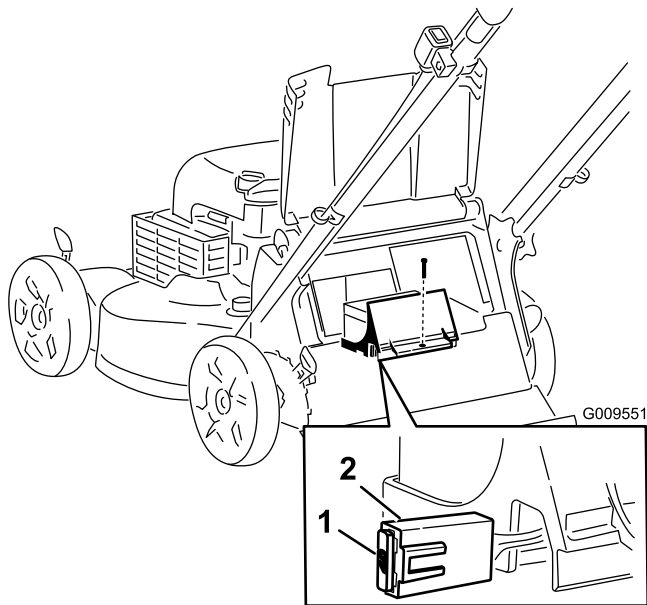

**Figure 23**
1. Raise the rear deflector and locate the battery compartment (Figure 23).